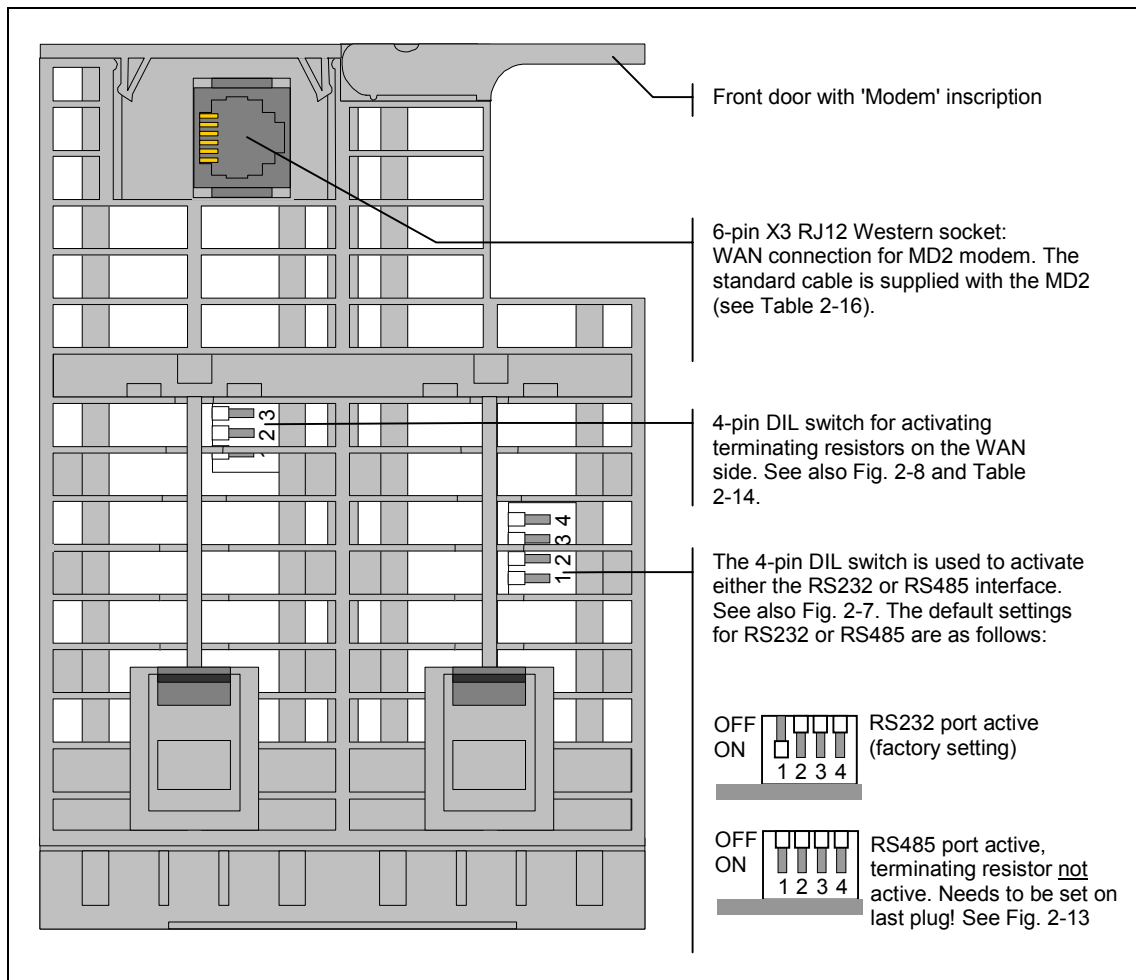
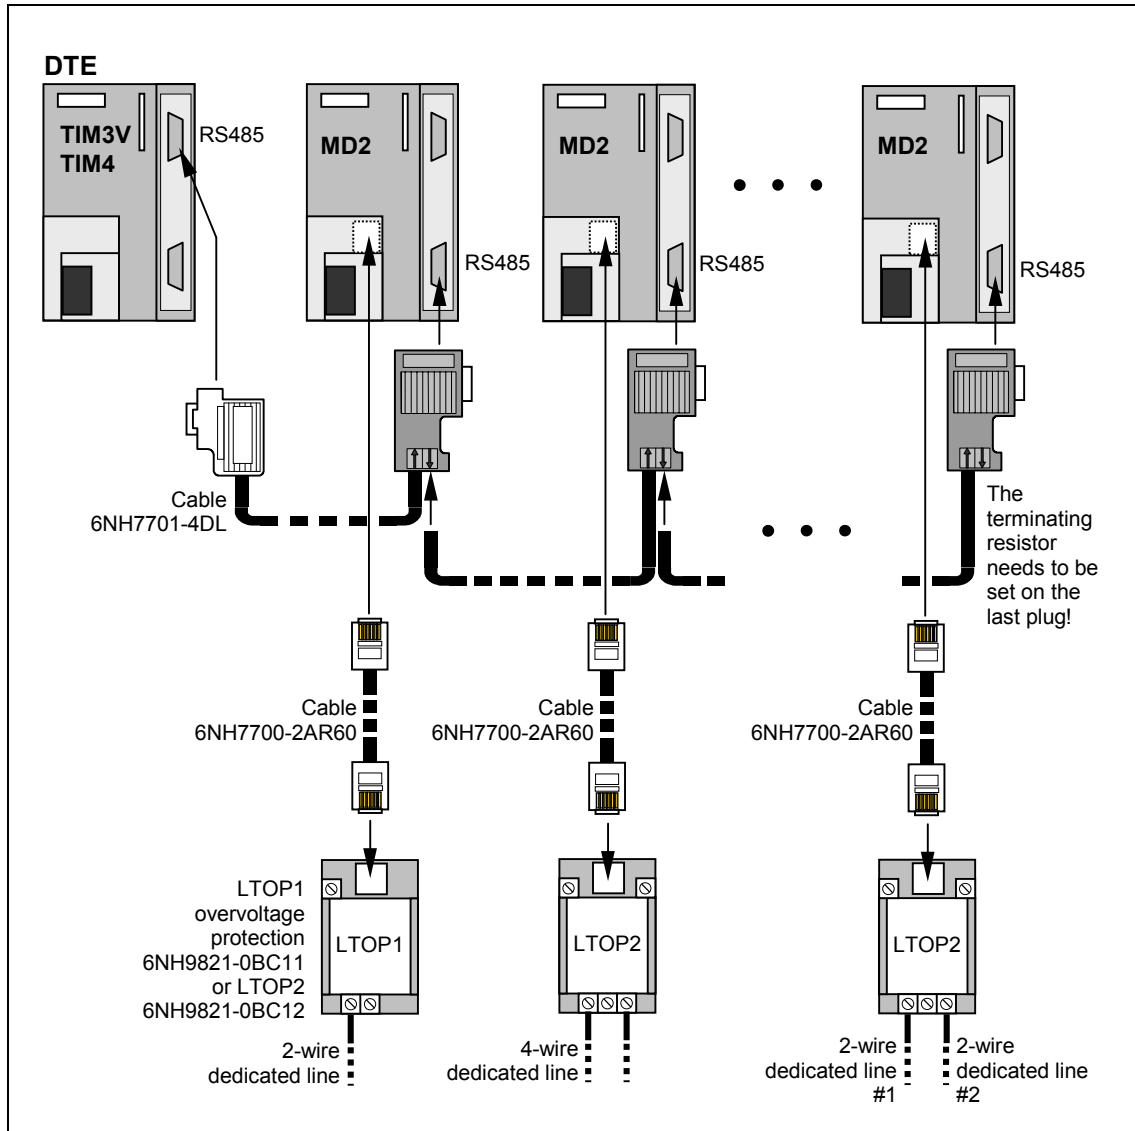

Fig. 2-6 View of the MD2 modem from below
Fig. 2-13 Connecting several MD2s with a DTE (e.g. TIM) via RS485, star-shaped junction of several dedicated lines
A 4-pin DIL switch can be accessed from the bottom of the modem housing (see Fig. 2-6). The DIL switch is used to activate either the RS232 or RS485 interface. The terminating resistor for the line is also switched on here for the RS485 mode (see Fig. 2-13). The following illustration shows a summary of the settings possible, Fig. 2-6 lists the default settings.
Another 4-pin DIL switch can be accessed from the bottom of the MD2 housing. This is used for activating the terminating resistors at the WAN end (see Fig. 2-6 for the location of the DIL switch). Fig. 2-8 is a summary of the various settings, Table 2-14 lists the respective default settings.
Do not forget to activate the terminating resistor for the RS485 bus with the slide-switch on the last plug (see Fig. 2-13)!
- 2) The RS485 interface must also be activated with the 4-pin DIL switch accessible from below (see Fig. 2-6).